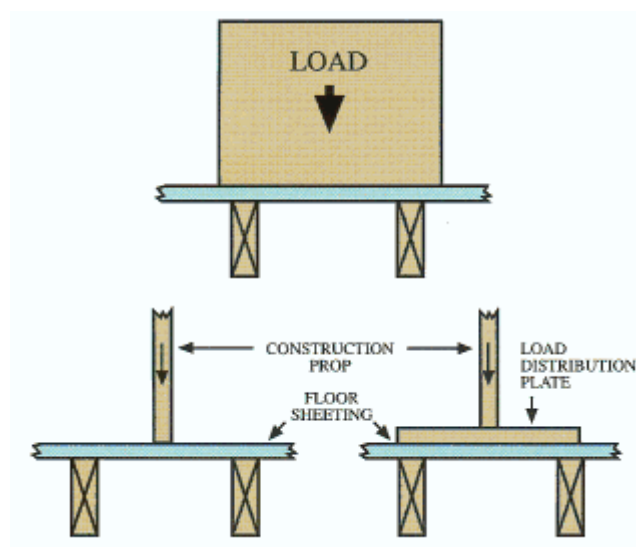

Figure 1
2. If the load is a safe or heavy cabinet the base area may be large enough to transfer the load directly to the joist system, rather than through the floor sheeting (as in Figure 1).